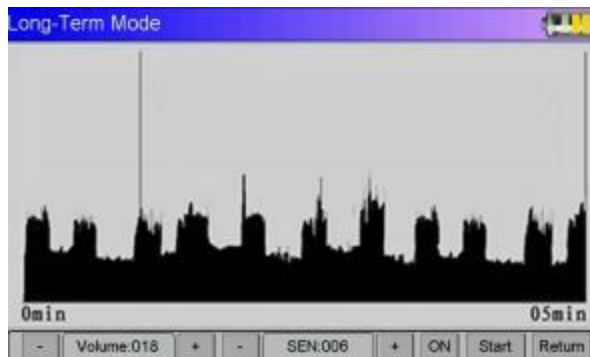
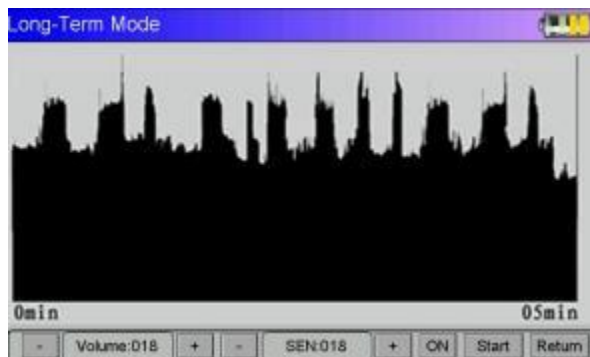

Figure 5
Figure 6
- Intermittent increase and decrease in water pipes and a larger amplitude: whether to raise or lower the sensitivity, the recess amplitude of increase and decrease is not big, **can judge where no leaking.** (See Figure 5 , Figure 6)